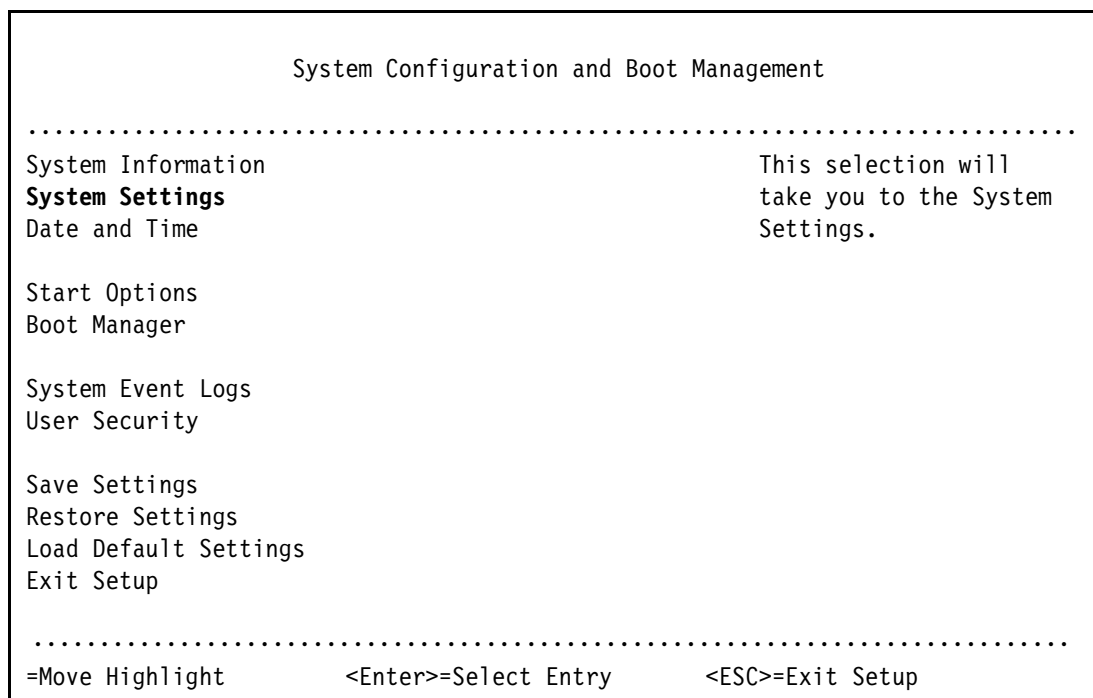

Figure 7-4 IBM Flex System CMM System Configuration Menu
- Highlight **System Settings** and press Enter to go to system settings options as shown in Figure 7-4.